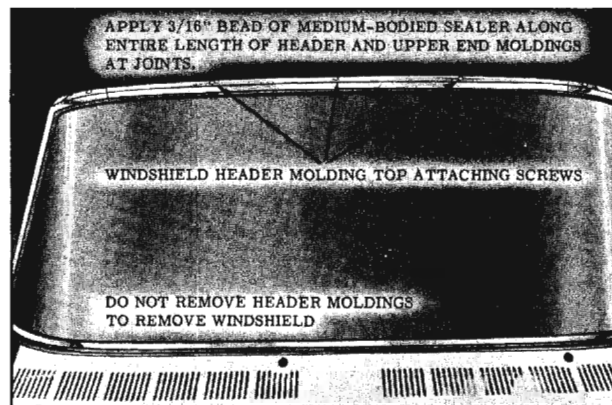

Fig. 16-207 Garnish Molding Sealing
- To install, on "67" styles, apply a 3/16" bead of medium-bodied sealer the entire length of the windshield header before installing the header moldings. Apply additional sealer to the underside of end moldings to insure water-tight seal to the junction of the center molding. (Fig. 16-207)